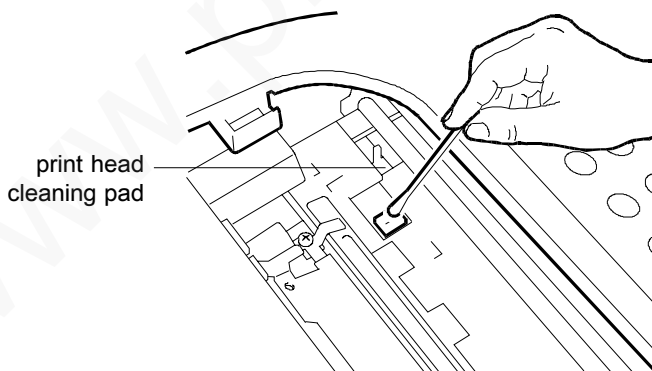

Fig. 7-4
- 3) Clean the print head cleaning pad using a dry cotton swab (fig. 7-4), then re-install the print head and close the printer lid.